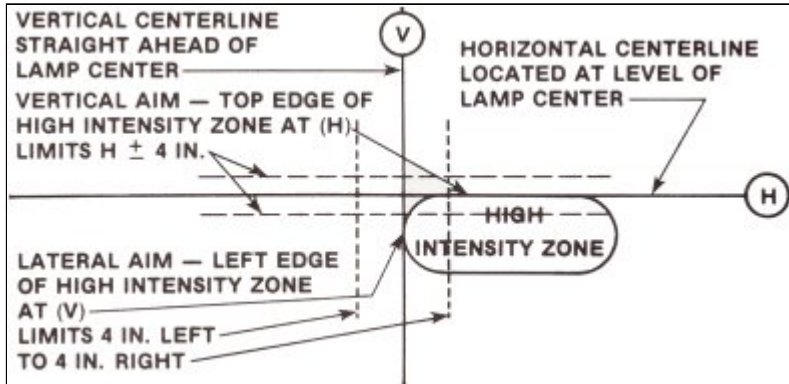

FIG. 3 - AIM INSPECTION LIMITS FOR LOWER BEAM OF:
If the floor slopes 2" toward the screen and the center line height (D) is 30", subtract 2" and place (B) at 28" on the screen (Fig. 3)